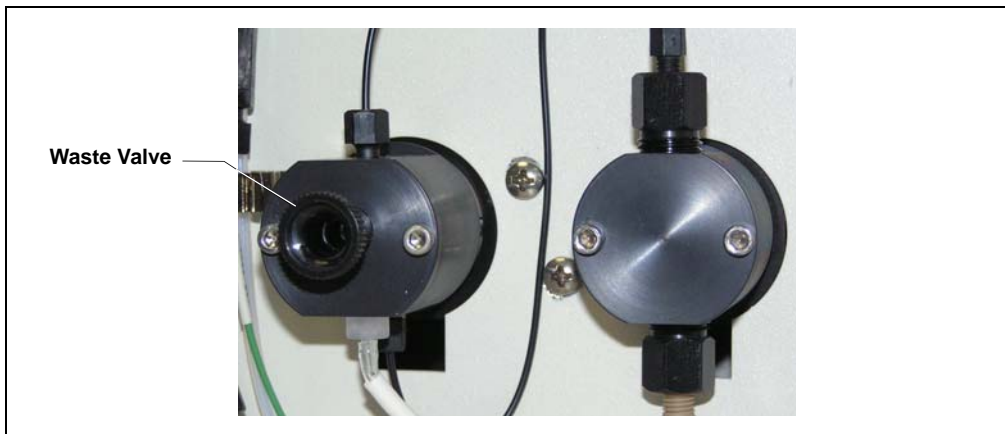

Figure 5-8. Waste and Priming Valves
2. To remove the waste valve from the pump head (see Figure 5-8), turn the knob counterclockwise until it is loose, and then pull the knob straight out of the cavity in the head.